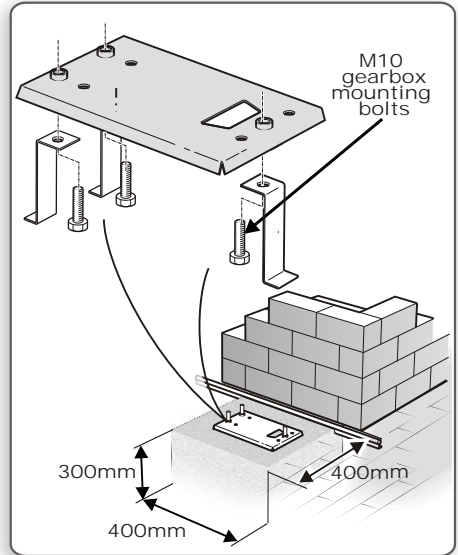
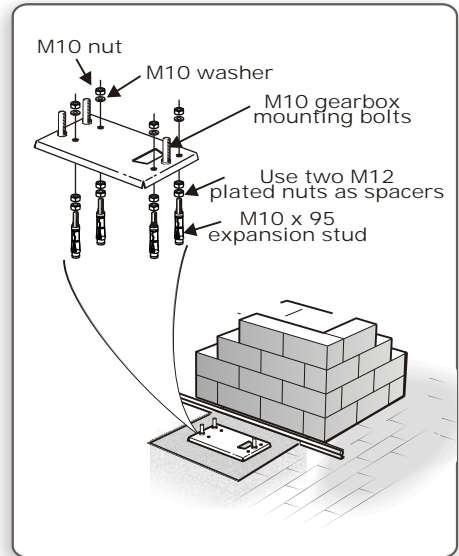

FIGURE 11
FIGURE 13
1. The foundation plate can either be set into a concrete foundation, as in Figure 11 or bolted down onto an existing concrete plinth as in Figure 13.